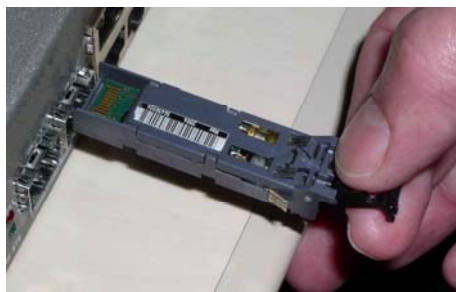

Figure 5: Inserting an SFP, upside-down, into the Enhanced GigE Slot
3. Gently insert the SFP transceiver into the port until the module clicks into place. The module is keyed to prevent incorrect insertion. See Figure 5.